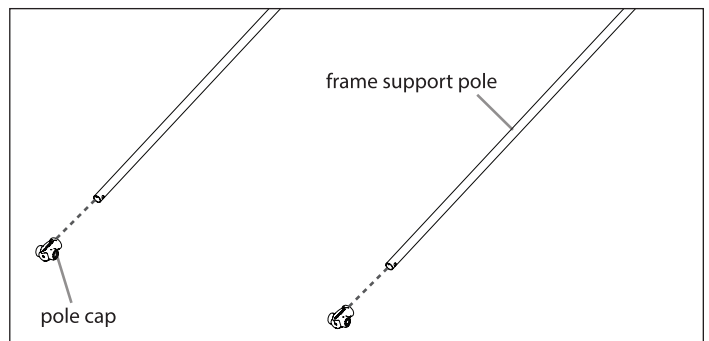

FIGURE 6
9. Locate the (6) pole caps (68060) and the (3) frame support poles (15519). Attach (1) pole cap to both end of each support pole by pushing the cap over the pole ends. Align the hole in the pole cap with the hole in the support pole to ensure a correct assembly. **SEE FIGURE 6**